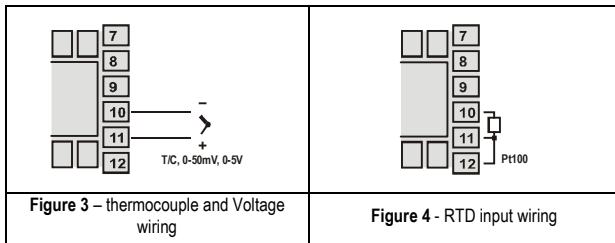

Figure 3 - thermocouple and Voltage wiring
- Thermocouple and voltage (Volts and mV) input connect as in **Figure 3**.